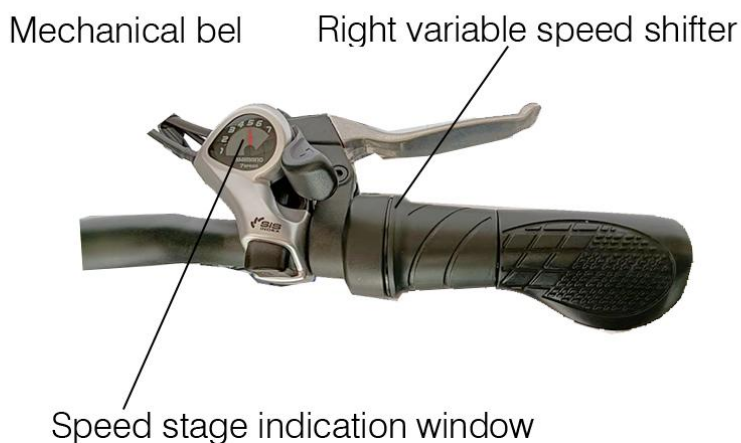

Figure 4 (right handlebar)
Step 2: Seat Assembly (refer to fig.4)
- 6.Speed change: Referring to Figure 4, turn the speed change shifter while the vehicle is moving to achieve speed change from gear 1 to gear 7.